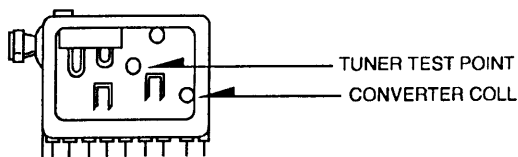

Fig. 2a
- A. Preparation step. (see fig.2a)